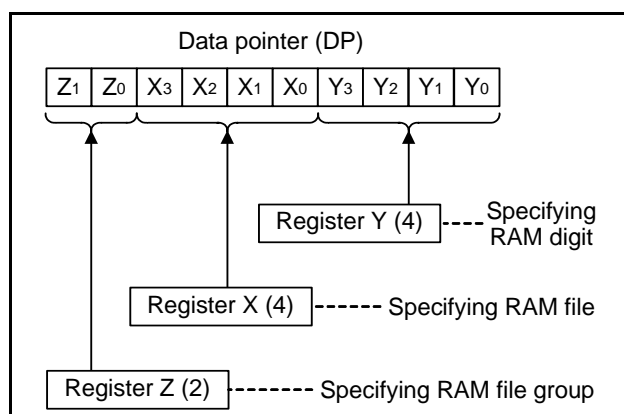

Fig 14. Data pointer (DP) structure
(9) Data pointer (DP)
Data pointer (DP) is used to specify a RAM address and consists of registers Z, X, and Y. Register Z specifies a RAM file group, register X specifies a file, and register Y specifies a RAM digit (Figure 14).